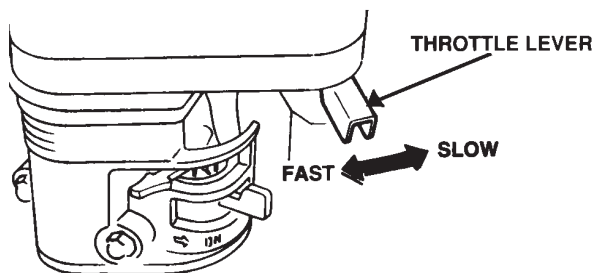

Figure 28. Throttle Lever
9. Place the **throttle lever** (Figure 28) halfway between **FAST** and **SLOW** for starting. All sawing is done at full throttle. The engine governor speed is factory set to ensure optimum blade operating speeds.